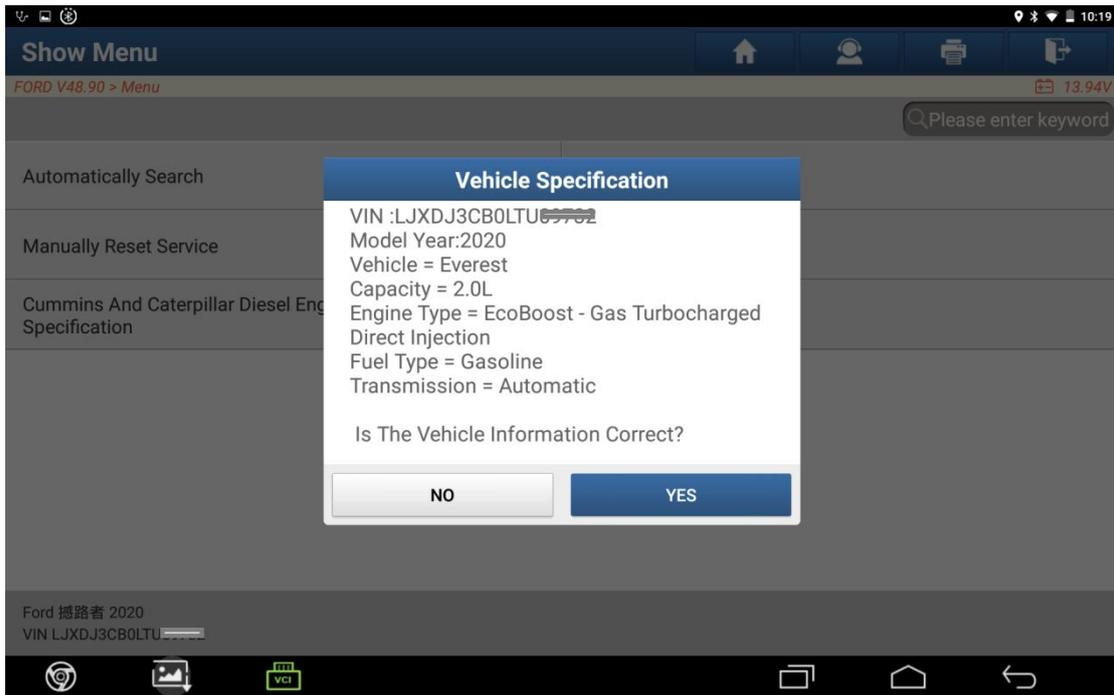

Figure C3
2. Check the current identified vehicle information. See Figure C3.